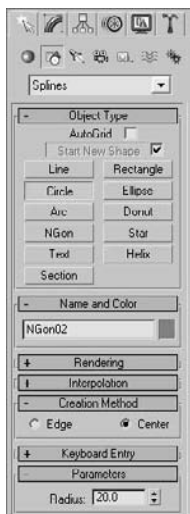

Figure 2.21
2. In the Command panel, click the Create tab and then click the Shapes button () to display the creation options for various shapes. The Splines option should appear in the Object Type menu, as shown in Figure 2.21.